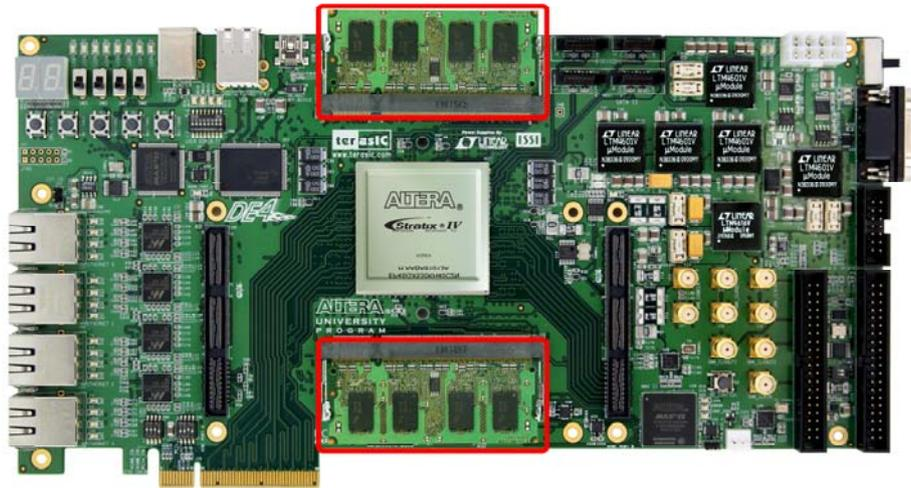

Figure 5–23 Insert DDR2-SDRAM SODIMM for the DDR2 Demonstration
- Make sure DDR2-SDRAM SODIMM is installed on your DE4 board, as shown in Figure 5–23.
- The program will display progressing and result information, as shown in **Figure 5–24**.